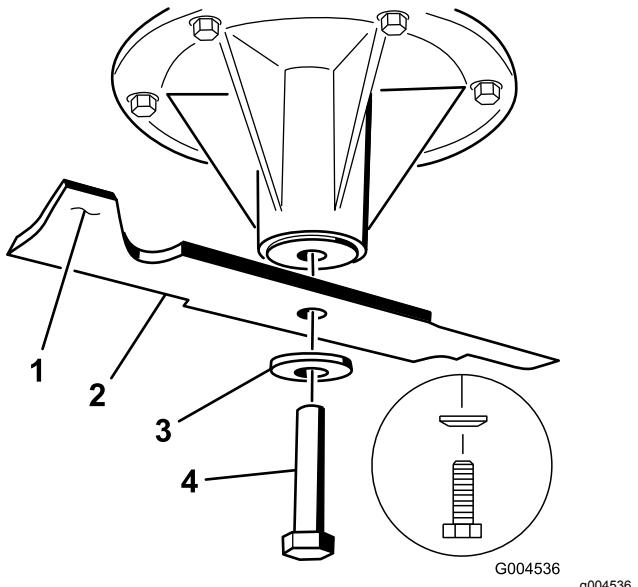

Figure 102
2. Remove the blade bolt, the curved washer, and the blade from the spindle shaft (Figure 102).